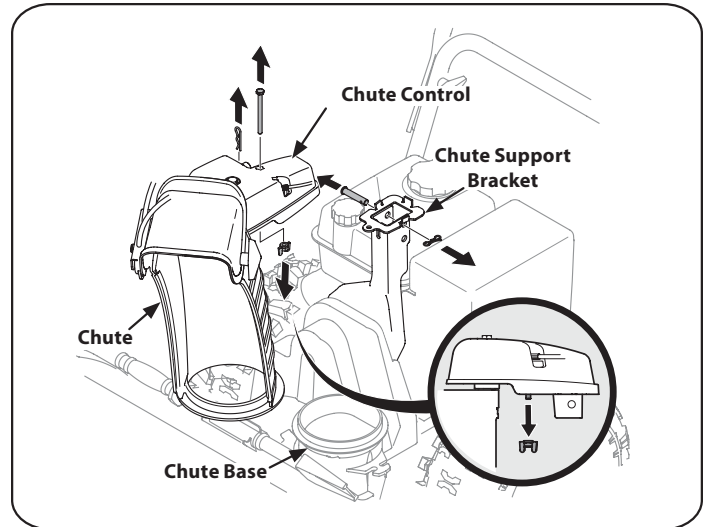

Figure 3A
1. Remove cotter pin, wing nut and hex screw from chute control assembly and clevis pin and cotter pin from chute support bracket. See Figure 3A.